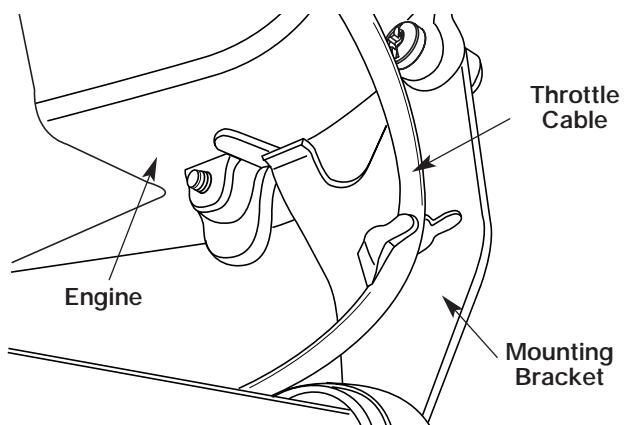

Figure 13
5. Push the throttle cable housing into the trigger housing until it snaps into place. See Figure 13.
6. Route the throttle cable through the clip on the right handlebar mounting bracket. See Figure 13.